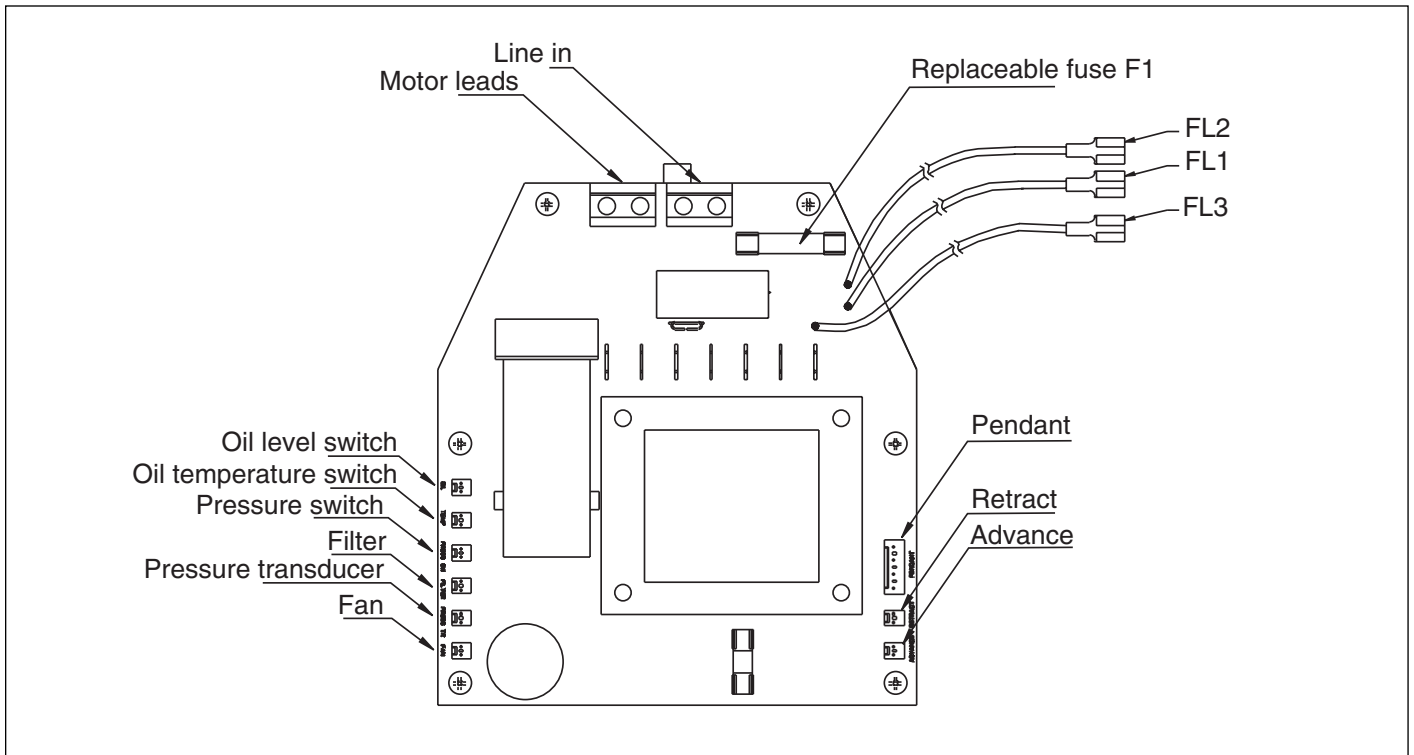

Figure 4, Power Board Wiring
19. Route the fan cord over the top of the motor and plug the connector into the fan pin on the power board. (see Fig. 4).